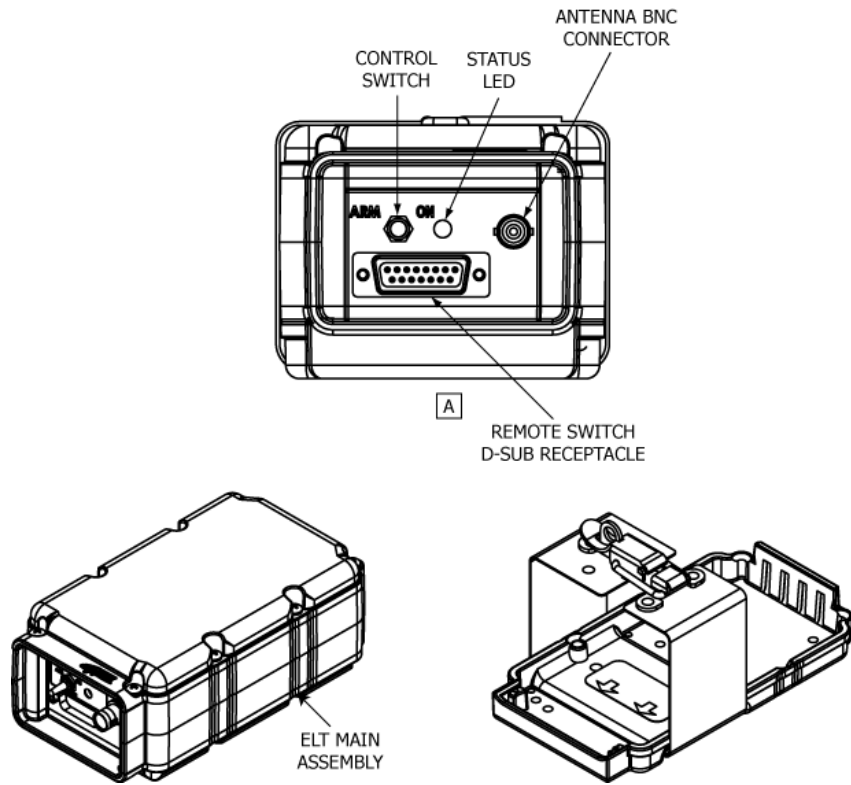

Figure 1 ARTEX ELT 1000 Beacon and Mounting Tray
- 1) The ARTEX ELT 1000 housing assembly and tray are made of high impact, fire resistant, polycarbonate-polyester plastic (see Figure 1).